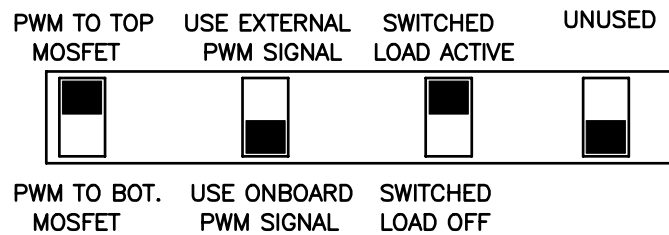

Figure 9.2: Switch Position for Switched Load
- Change the switch positions of the switch bank as shown in Fig. 9.2.